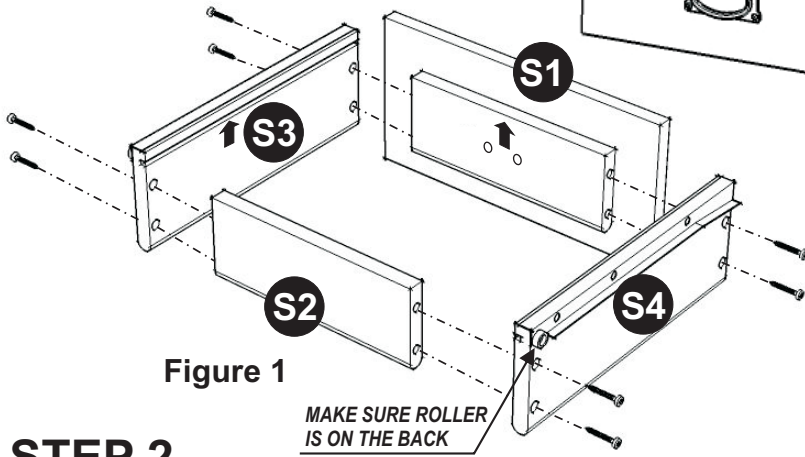

Figure 1
Attach 2X Magnets to Middle Panel (D) and (E) by using Wood Screws in the pre-drilled holes (see Figure 1).
(Figure 1)
Attach S2 to S3 and S4 using long wood screws (4X), tighten halfway. (see Figure 1)